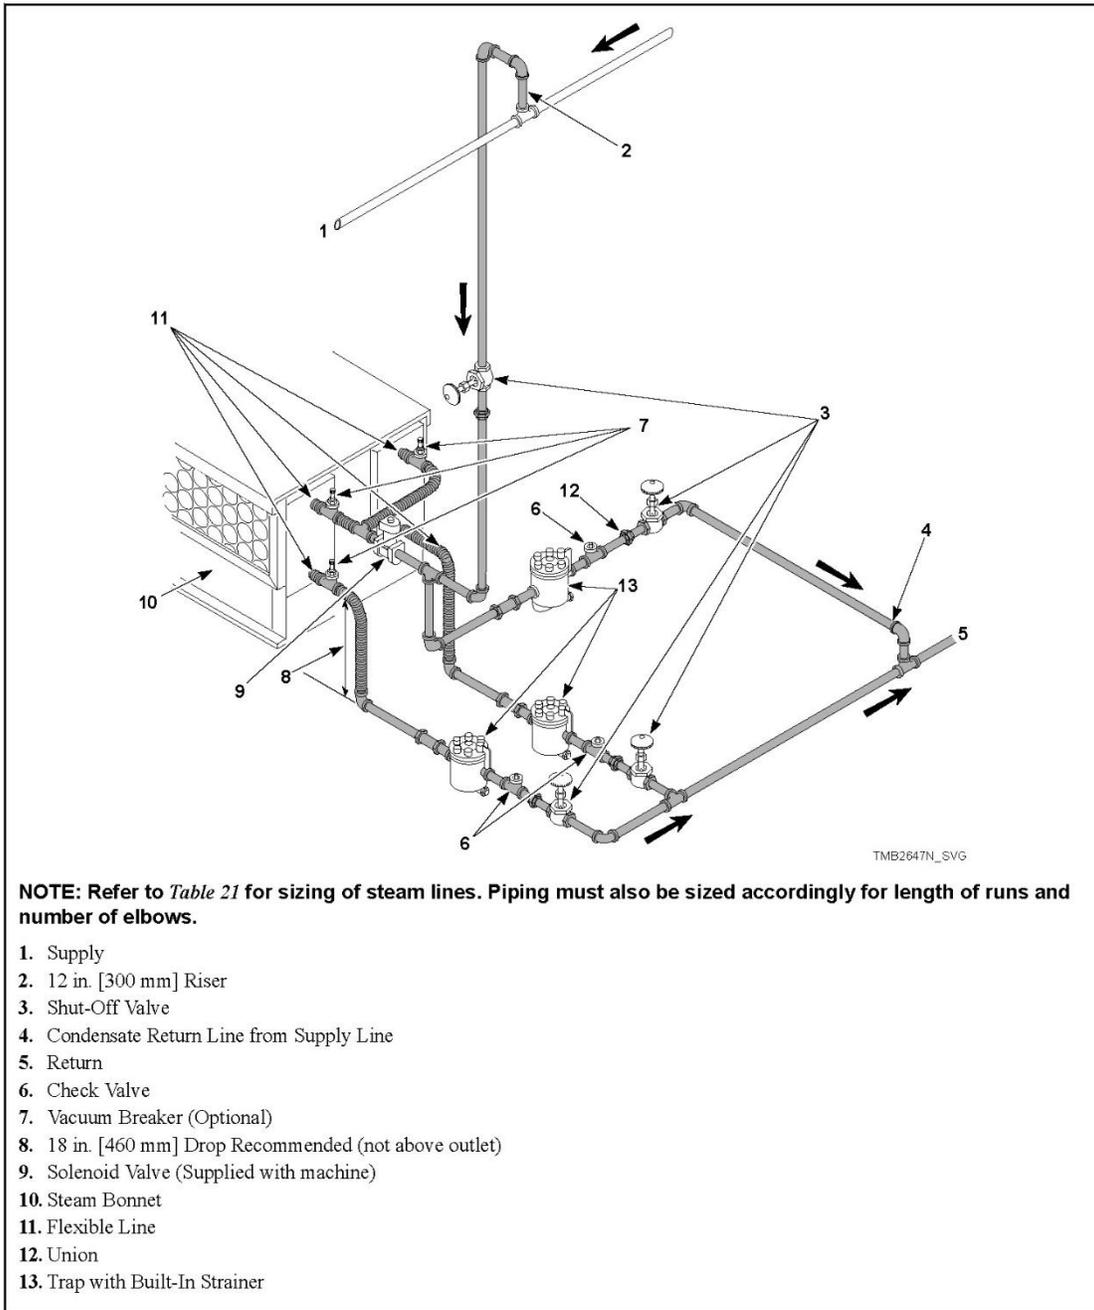

Figure 22
- Refer to *Figure 22* for proper steam pipe configurations.
The steam trap must be installed and the coil outlet connections must be connected to the condensate return lines. The following steps outline the procedure for installing the steam trap and connecting the condensate return lines. Refer to *Figure 22* for typical installations.